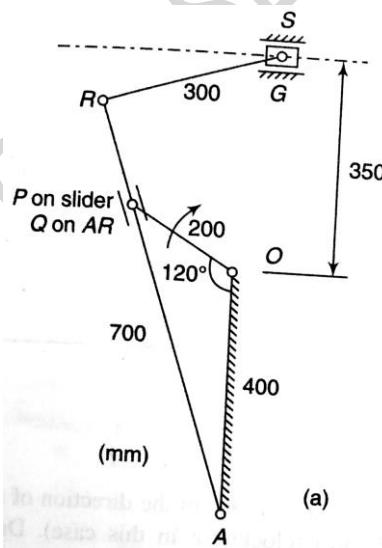

Fig. 6b
b) Figure 6b given here shows the link mechanism of a quick return mechanism of the slotted lever type, the various dimensions of which are, OA = 400 mm, OP = 200 mm, AR = 700 mm, RS = 300 mm. For the configuration of the link shown, determine the acceleration of the cutting tool at S and the angular acceleration of the link RS. The crank OP rotates at 210 rpm (CW).